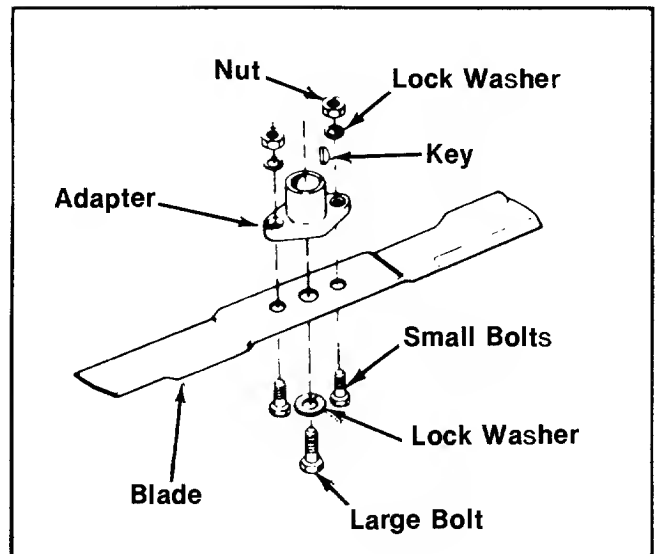

FIGURE 22.
1. Remove the large bolt and lock washer which holds the blade and adapter to the blade spindle. See figure 22.